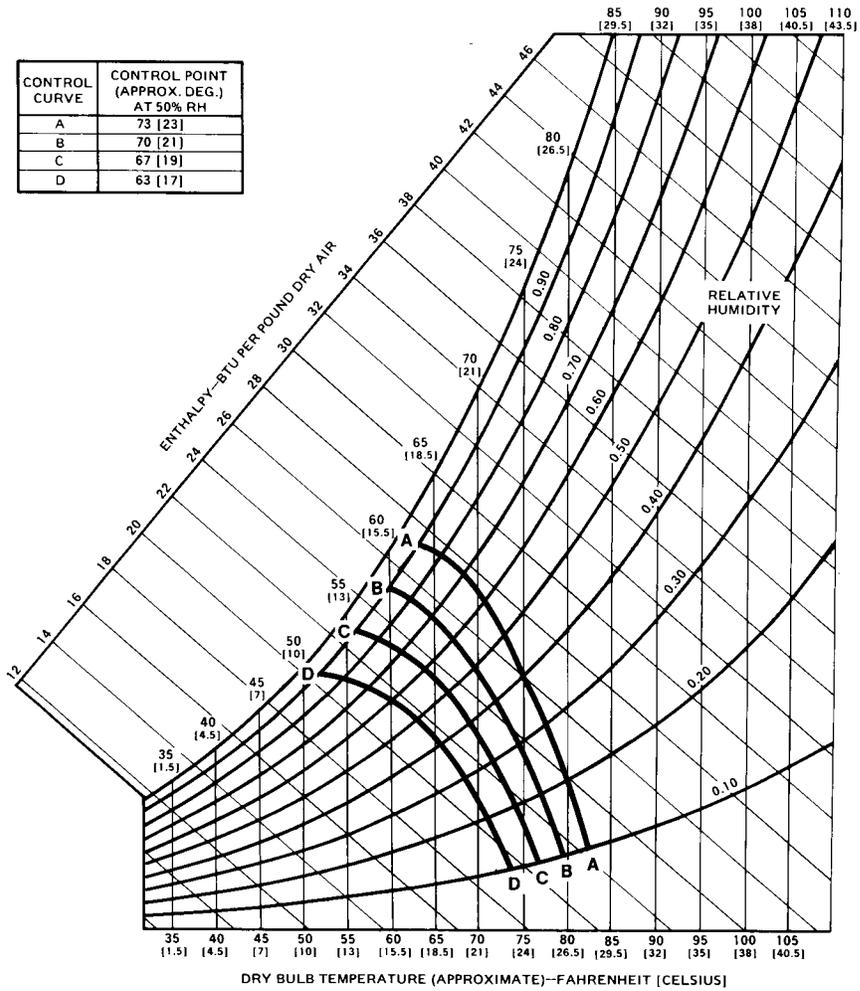

FIGURE 9 : ENTHALPY SETPOINT ADJUSTMENT
1. The enthalpy set point may now be set by selecting the desired setpoint shown in Figure 9. Adjust as follows: